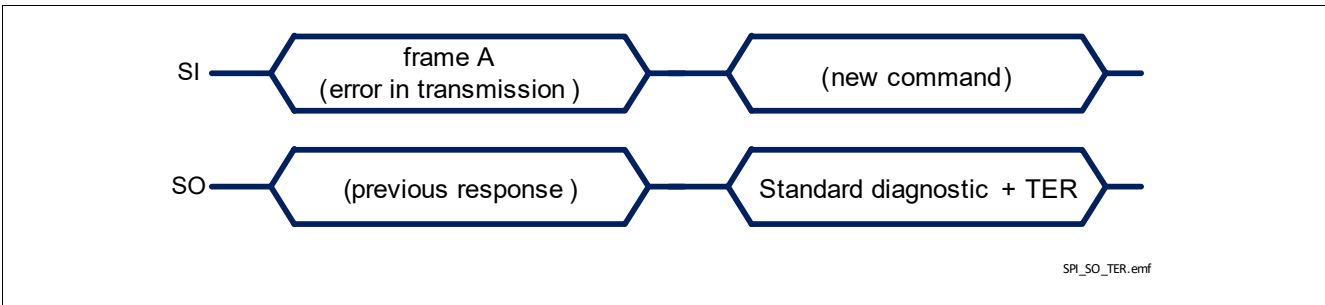

Figure 30 TLE75080-ESD response after a error in transmission
- in case an error in transmission happened during the previous frame (for instance, the clock pulses were not multiple of 8 with a minimum of 16 bits), shown in **Figure 30**